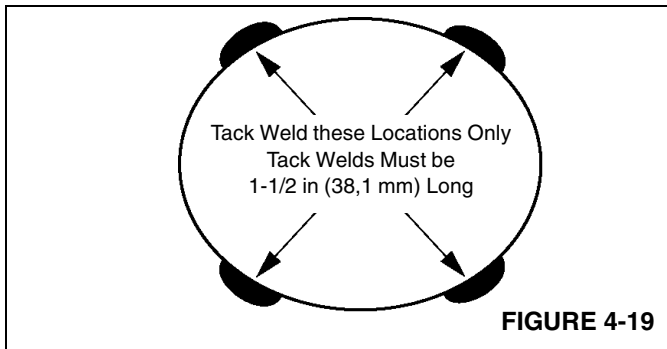

FIGURE 4-19
10. Use S.M.A.W. for tacking (Figure 4-19). All tack welds must be crack free and small enough to weld over. Use 3/32 in (2,4 mm) diameter stick electrode for tacking the lacing.
- A total of two tack welds are to be made only in the locations shown in Figure 4-19. **Do not tack weld toe or heel of lacing.**